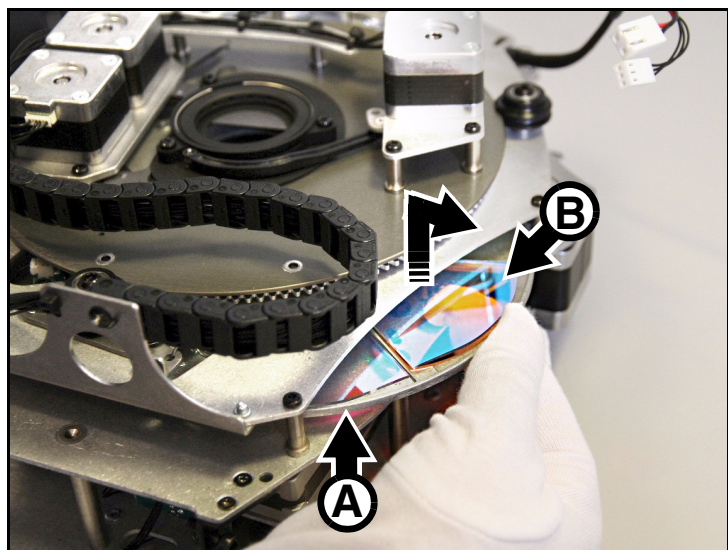

Figure 13: Color filter removal
4. See Figure 13. Turn the color wheel **A** until the filter **B** that you want to replace is accessible. Put on clean cotton gloves. Push the outer edge of the filter up and away from the color wheel slightly to release it, then pull the filter carefully out of its clip and remove it. Store the filter resting on a clean, soft surface or in a filter rack.